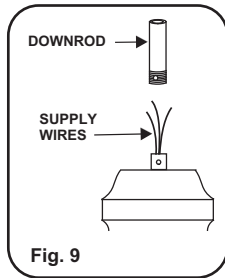
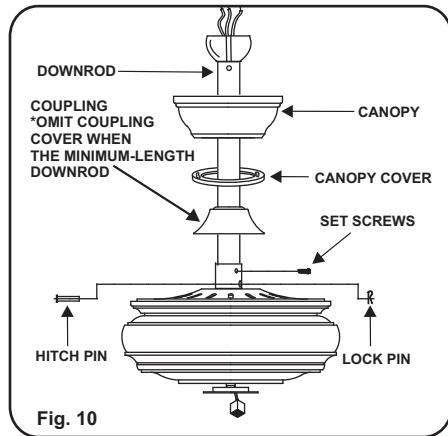

Fig. 9
Fig. 10
**Step 6.** Carefully feed fan wires up through the downrod. (Fig. 9) Thread Downrod into the Coupling until the holes are lined up and secure with the Lock Pin and Hitch Pin previously removed, tighten Set Screws. (Fig. 10)
Step 7. Slip Coupling Cover and Canopy onto Downrod. Carefully re-install the Hanger Ball onto the Downrod being sure that it's properly positioned over the Cross Pin and the wires are not twisted, tighten Set Screw. (Fig. 10)